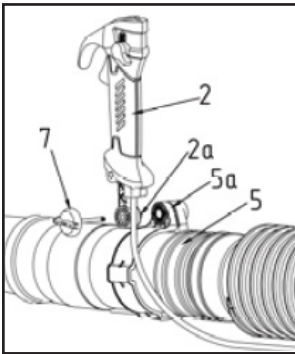

FIG 5.
Fit the control handle (2) onto the clamping ring (5a), and then tighten it with the lock knob (7). (Fig. 5)